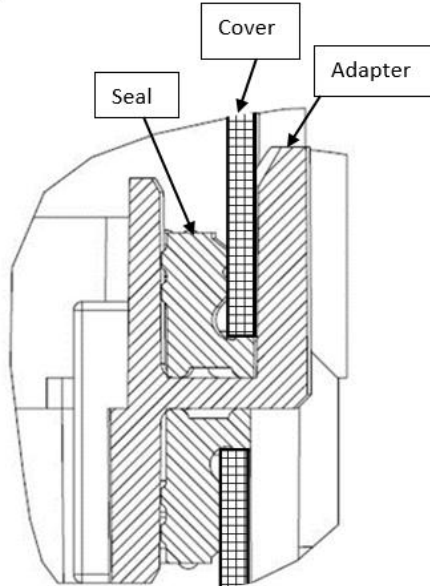

Figure 36
ATTENTION: The Cable Exit Cover (item 7) needs to be aligned properly over the inlet and pushed vertically into position to make sure the seal slips correctly into the seating all around (figure 36)